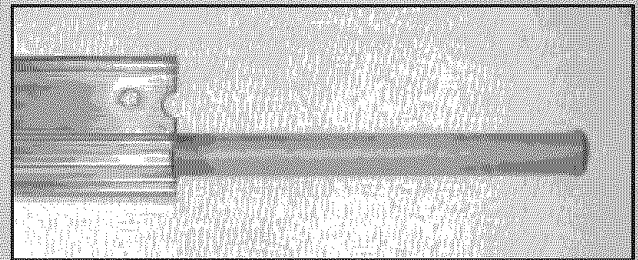

Fig. 1-2
- (3-piece only) Select “first” rail section. (It has protective cardboard sleeve over end of screw.) **Fig. 1-2.**